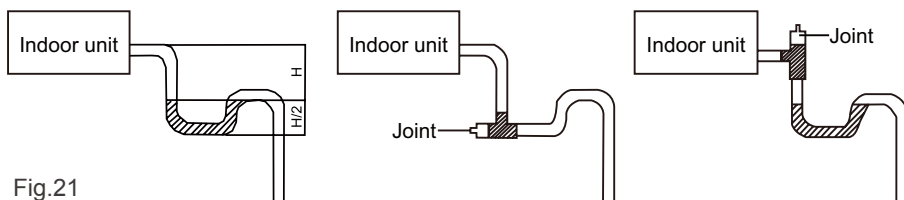

Fig.21
5. If the air flow of indoor unit is high, this might cause negative pressure and result in return suction of outdoor air. Therefore, U-type water trap shall be designed on the drainage side of each indoor unit.(Fig.21)